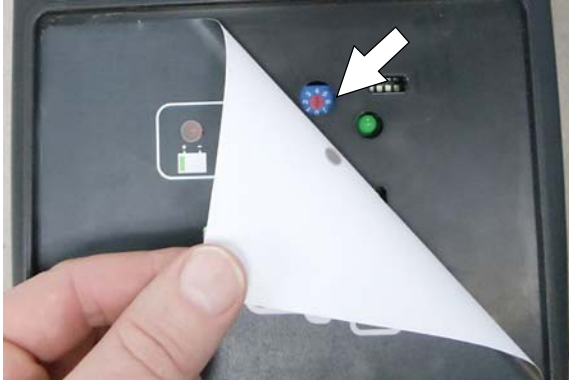

FIG. 125
- Carefully peel back the charger display label to access the dial settings (Figure 125).